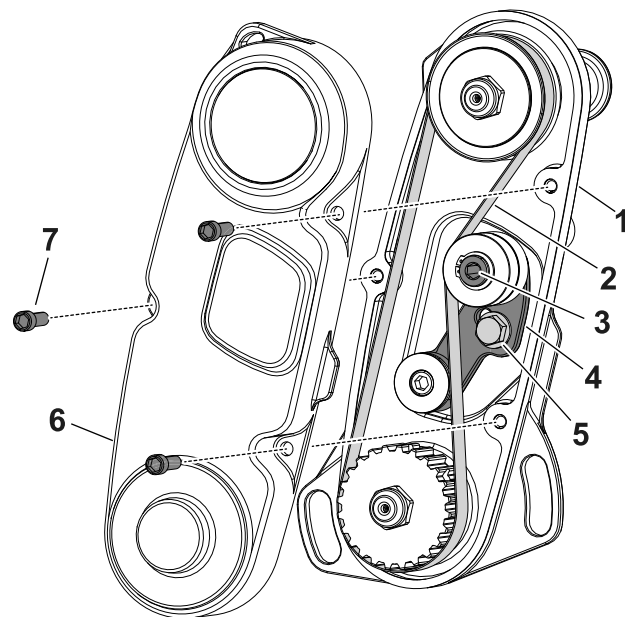

Figure 16
1. Remove the belt cover to expose the belt (Figure 16).
2. Loosen the idler-arm bolt and rotate the idler arm (Figure 16) to release tension on the belt.
3. Remove the belt (Figure 16).
6. Install the belt and tension the belt by applying 6 to 7 N·m (55 to 60 in-lb) to the idler-arm internal hex shown in Figure 16.